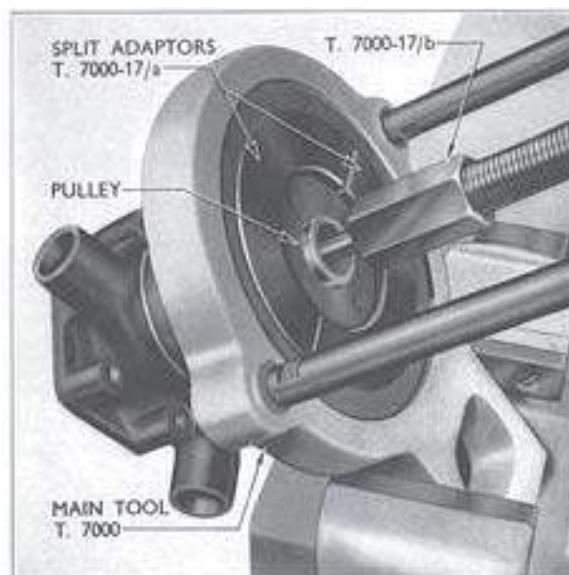

Fig. 37
1. Remove the pump pulley from the shaft using the split adaptors (T.7000-17a); as shown on Fig. 37. Screw adaptor (T.7000-17b) onto the centre screw of the main tool, so that it pushes against the centre of the pump shaft.